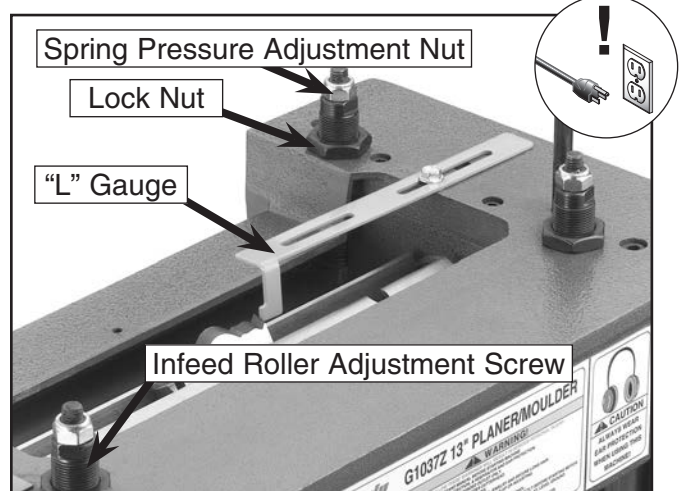

Figure 22. Using the orange "L" gauge.
10. Attach the orange "L" gauge to the top of the planer as shown in **Figure 22**. Adjust it to touch the edge of the moulding knife and tighten the hex bolt.
14. Check the spring pressure. The nut called out in **Figure 22** should be no more than 4 threads from the top of the threaded rod.